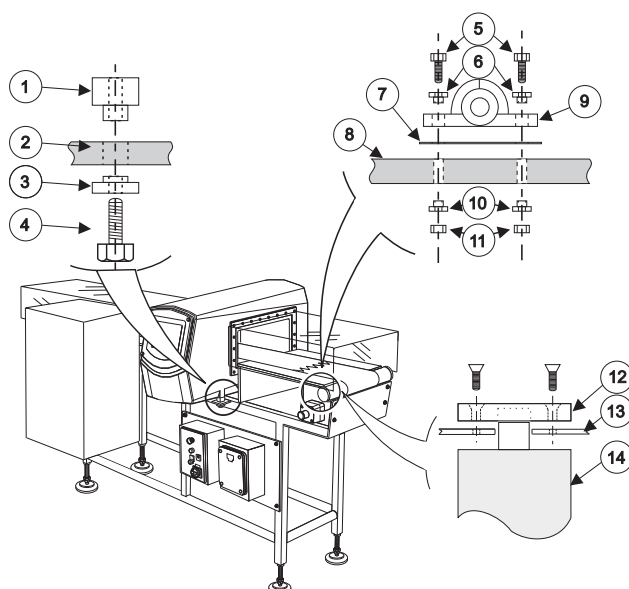

Figure 11: Bearing Block and Mounting Foot Insulation
- Insulate one end of the roller from the conveyor frame. This can take the form of a plastic insulation plate and washers on the bearing mounting block or a plastic extension to the end of the roller shaft. This is shown in Figure 11.